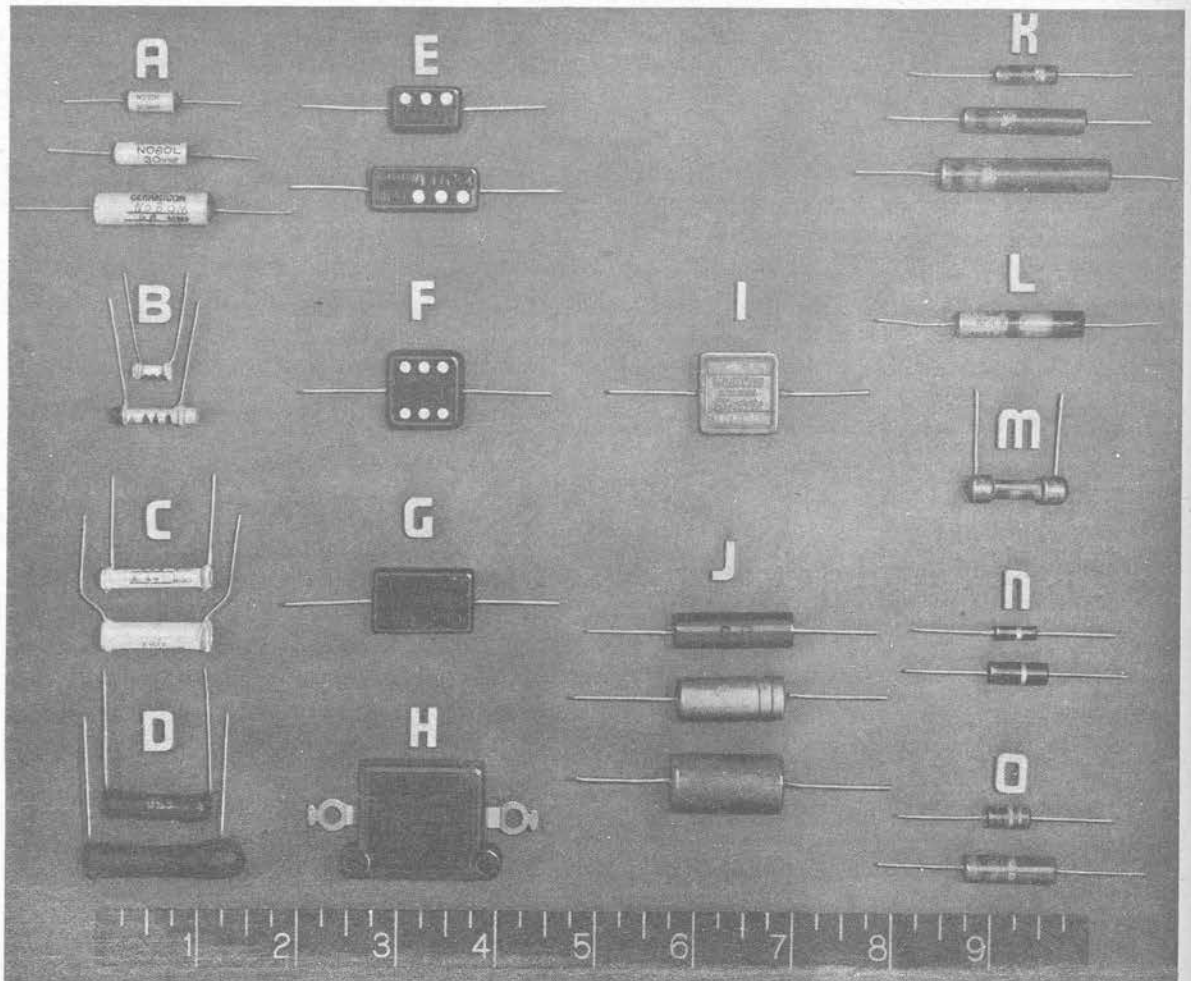

Fig. 63. Types of Capacitors and Resistors
shape or both. The relative appearance of the various capacitors and resistors used in these radio sets is shown in Fig. 63. The first column (A-D) shows ceramic capacitors. The second (E-H) shows mica capacitors and the third (I-J) shows oiled paper capacitors. In the fourth column (K-O) are various kinds of resistors. The general characteristics of such units are given in Table VII and discussed in more detail later. While Fig. 63 covers the range of types, it does not necessarily include all the variations produced by different manufacturers.
The three sizes shown under group A (Fig. 63) cover the range of physical sizes in which these insulated ceramic capacitors are manufactured. These units were supplied originally in small sizes to provide temperature compensation for the combination of coil and mica capacitor in a tuned circuit. More recently, they have been specified in larger sizes in some tuned circuits to eliminate the need for a mica capacitor and provide temperature compensation for the coil. Since ceramic units with equal capacitance may differ greatly in temperature coefficient, it is not safe to use a ceramic unit for a replacement (where stability is needed) unless the temperature coefficient is known to be correct for that use.
Five sizes of ceramic capacitors are shown in Fig. 63. The two smallest are those in B. The next two are those in C, and the largest is the lower unit in D. Except for insulation the largest unit in group A corresponds in characteristics to the small unit in group C.
All the mica capacitors shown in the second column of Fig. 63 are insulated by a molded bakelite jacket and can be allowed to rest against metal. In general, the foil-mica units have a brown jacket, and the silver-mica units have a red jacket. Capacitors with a straw-colored bakelite jacket, as used in this equipment, may be either foil-mica, silver-mica, or paper units.
The capacitors shown in the third column of Fig. 63 use oil-impregnated paper for insulation. For stability, they do not compare with silver-mica types but they can be used as replacements for foil-mica types for screen grid and filament positions of vacuum tubes where they do not need to pass much radio-frequency current. In general, they are good substitutes for mica units for most by-pass purposes. The voltage rating decreases as the capacitance increases as follows:
**44. Color Codes on Components.** The various types of capacitors and resistors used in Radio Sets SCR-608-A and SCR-628-A are illustrated in Fig. 63 and discussed in Paragraph 43e. Some capacitors and resistors have their values stamped on the unit, but in many cases colored dots and bands are used instead. The various color codes used for capacitors and resistors are shown in Figs. 64 to 68 inclusive, and are discussed in the following paragraphs.
*a. Molded Mica Dielectric Capacitors.* Capacitors of this type are illustrated in groups E, F, G, and H of Fig. 63. Three different color codes are used on these units: